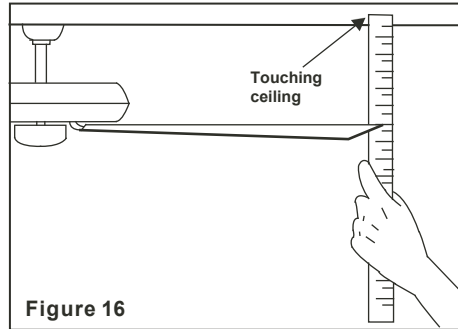

Figure 16
2. Most fan wobbling problems are caused when blade levels are unequal. Check this level by selecting a point on the ceiling above the tip of one of the blades. Measure this distance as shown in Figure 16. Rotate the fan until the next blade is positioned for measurement. Repeat for each blade. The distance deviation should be equal within  $1/8$ ".